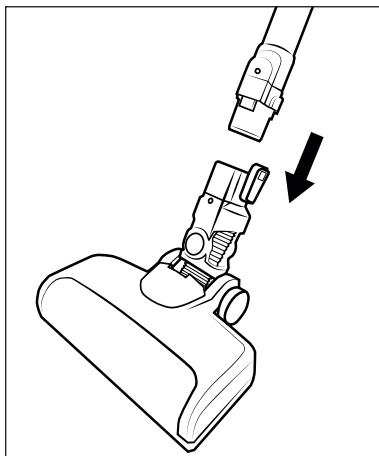

Fig. 2
- 2) Push the suction pipe ②4 into the floor brush ②2 until it audibly clicks into place (see Fig. 2).